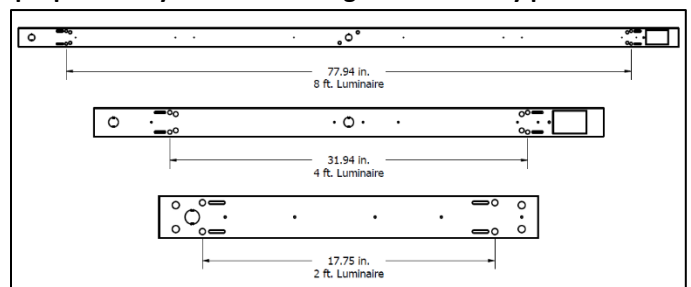

Figure 5
7. Figure 5 shows the mounting hole patterns for 2 ft., 4ft., and 8 ft. luminaires. **Note: All dimensions are for reference purposes only and could changed without any prior notice.**